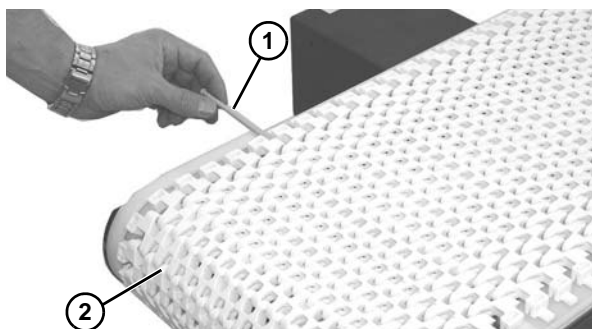

Figure 33
2. Use a punch and hammer to push the belt rod (Figure 33, item 1) out by striking the rod end opposite the retaining head.
3. Slide the old belt (Figure 33, item 2) off the conveyor frame.